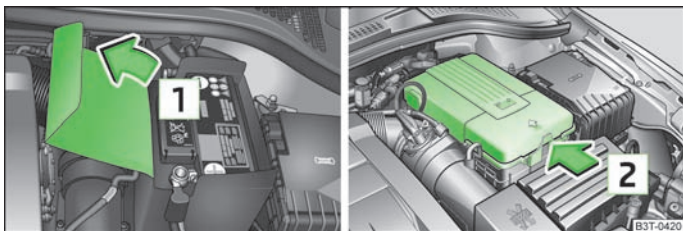

Fig. 165 Engine compartment: Polyester cover of the vehicle battery/plastic cover of the vehicle battery
The battery is located in the engine compartment in a polyester cover  » Fig. 165, in a plastic cover  » Fig. 165 or in the left side of the luggage compartment » Fig. 102.
- Open the battery cover in the direction of the arrow  or press the interlock on the side of the battery cover in the direction of the arrow  » Fig. 165, fold the cover up and remove.
When working on the battery, the edge of the polyester battery cover  » Fig. 165 is inserted between the battery and the side wall of the battery cover.